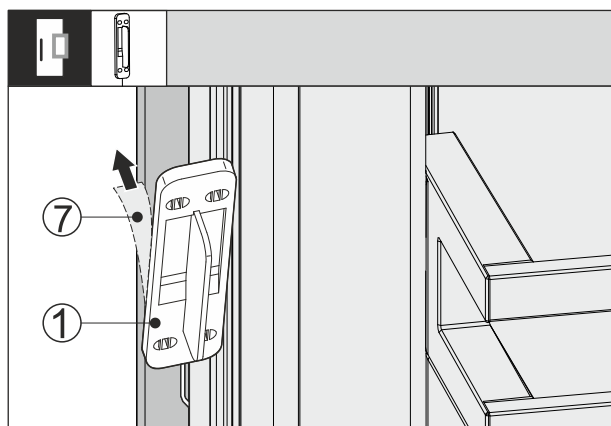

Fig. 65
- Remove the protective film Fig. 65 (7) on the back of the knocking sensor Fig. 65 (1).